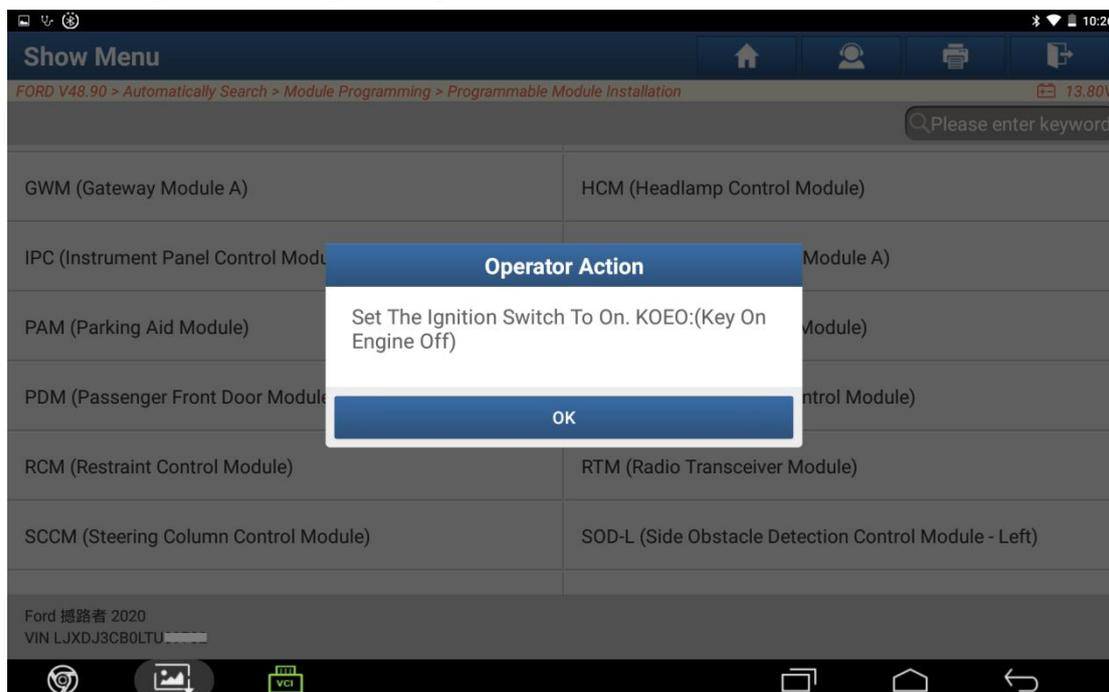

Figure C9
- Prompt to turn on the ignition switch. Click OK to read the original module data (see Figure C9) and go to step 11.